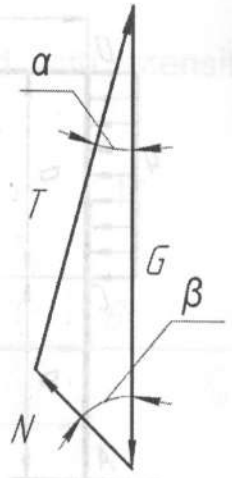

Fig. 2.2
4. The second method (graphical, Fig. 2.2).